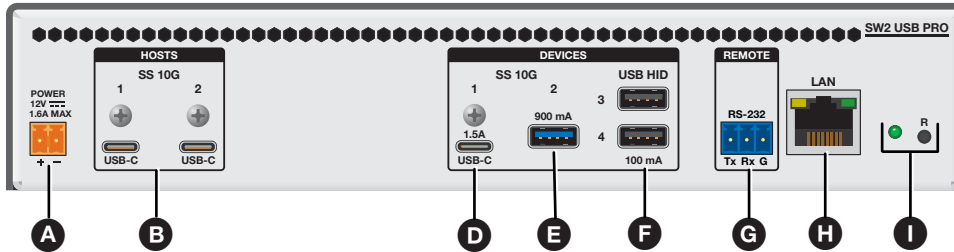

Figure 2. Rear Panel — SW2 USB Pro
2. Connect host PCs to the SW USB Pro USB-C input connectors (see figure 2 or 3, **B**). The USB-C host connectors **do not** provide power to the connected host PCs.
5. Connect the included power supply to the switcher power connector (see figures 2 and 4, **A**).